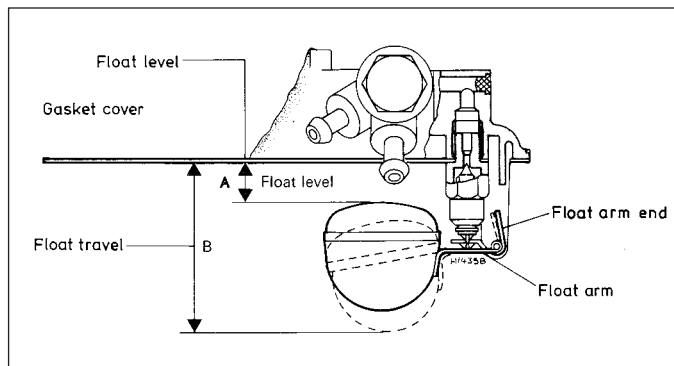

Fig. 3.10 Float setting diagram (Weber 32 ICEV 50/250) (Sec 9)
- 6 Reassemble and check the float setting. Do this by holding the top cover vertically so that the float hangs down under its own weight. Measure dimension (A) (Fig. 3.10) which should be between 1 0.50 and 11.10 mm (0.41 to 0.44 in) with the gasket in position. If necessary, bend the float arm tab to adjust.